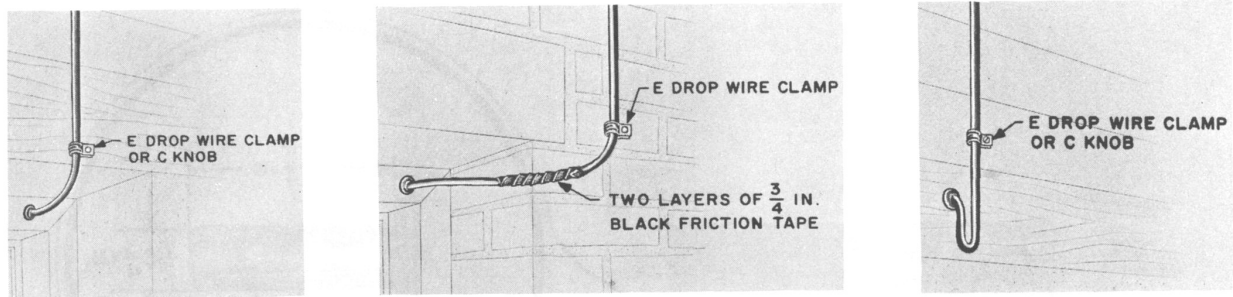

Fig. 16 — Last Attachment, Building Entrance Slopes Upward from Outside
12.03 Fig. 16 and 17 illustrate typical arrangements of last attachments.